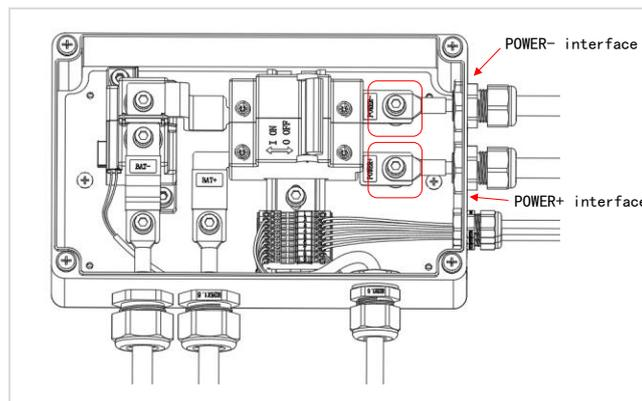

Figure 4-7
- The positive and negative power cables are fixed on the corresponding copper busbar through “POWER” and “POWER-” interfaces respectively, as shown in Figure 4-7.